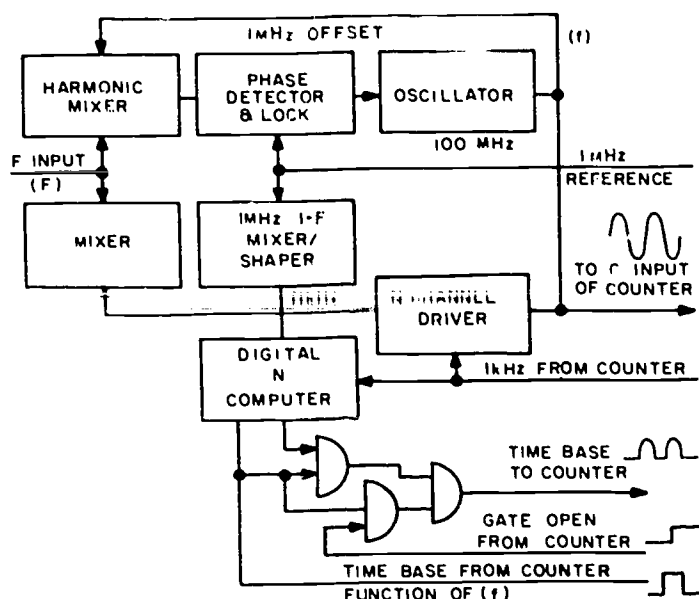

Figure 3-26. Electronic counter automatic method, block diagram.
Automatic method. Figure 3-26 is a block diagram of the automatic method. This method makes it possible to obtain instantaneous direct readings of unknown microwave inputs. An unknown signal (F) is fed into a harmonic mixer. A sweep oscillator frequency (f) is applied to a mixer and harmonics are generated and mixed with the input signal. A 1-MHz signal from the counter time base is used as a phase detector and locking frequency for the output signal of the mixer. This circuitry phase-locks the proper harmonic (N) of the